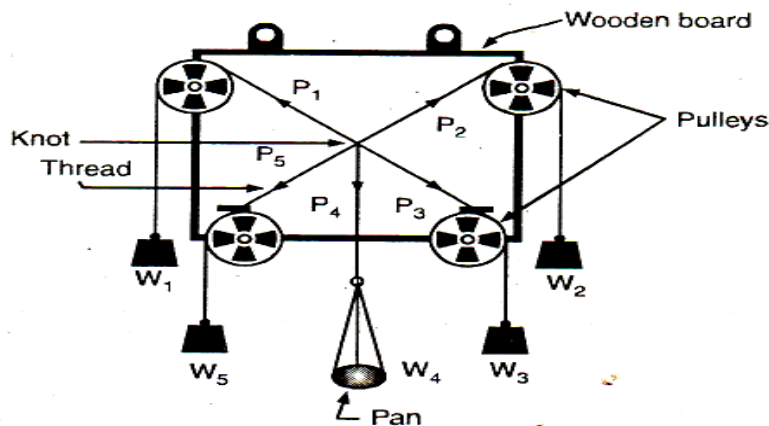

Fig 1.1. Force polygon apparatus
2. Fix the pulley in the wooden board with the help of the clamps as shown in fig 1.1.
5. Take the third thread and tie with the other two threads as shown in the fig 1.1.